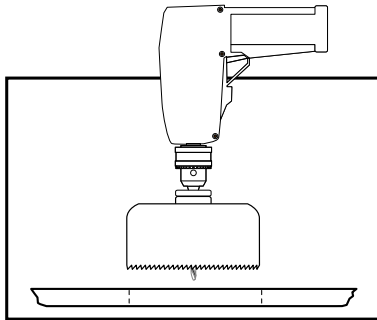

Figure 2-3 — Cutting the opening with a hole saw
2. Using a portable drill with a 6" (or 152 mm) hole saw, carefully cut the opening in the table surface at the desired location (figure 2-3). Extron is not responsible for an improperly positioned Cable Cubby.